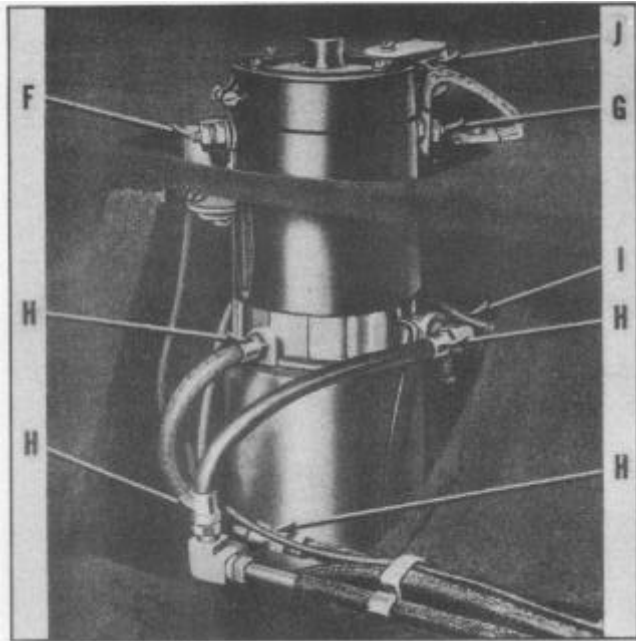

FIGURE 104
3. Disconnect battery cable and wires at motor solenoid (F), Figure 104.
5. Disconnect hydraulic inlet and outlet flexible hoses at H and remove vent tube (C) from rear of pump.
6. Remove nut and lockwasher from upper motor support (D) and lift complete unit up and out of well.